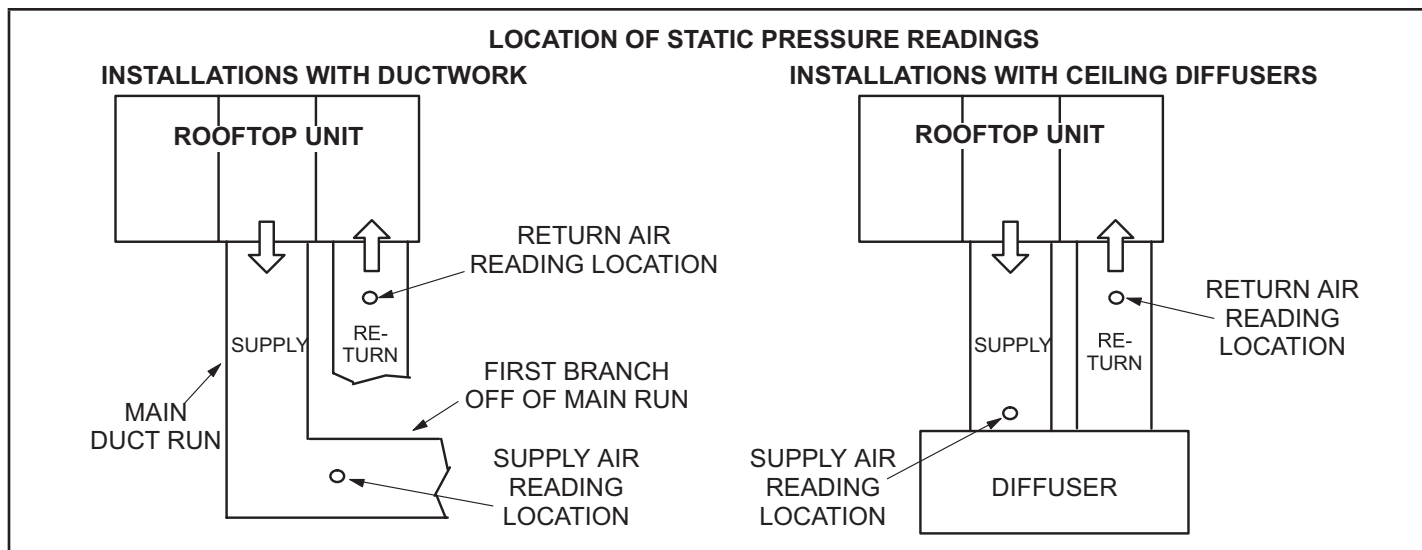

FIGURE 26
- 2 - With all access panels in place, measure static pressure external to unit (from supply to return). Add any additional air resistance for options and accessories shown in accessory air resistance tables. Blower performance data is based on static pressure readings taken in locations shown in FIGURE 26.